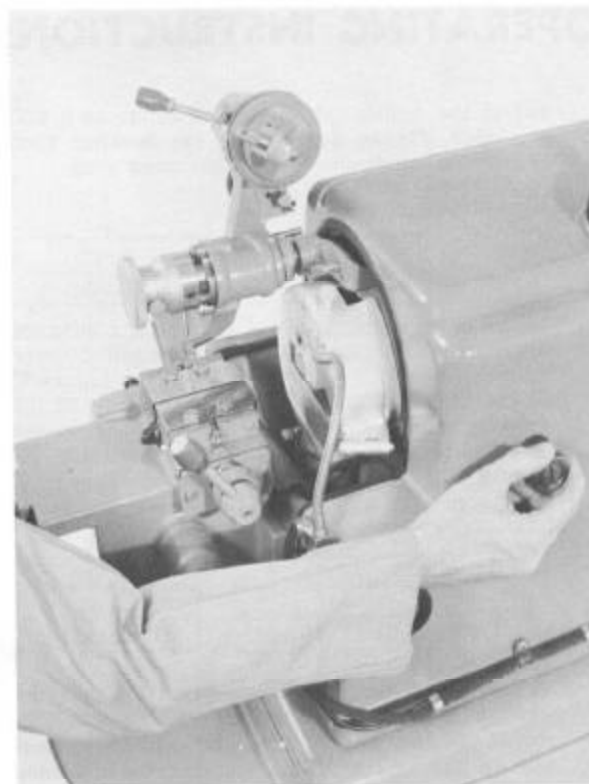

Figure 7b
2. Start the machine. Push in the spindle gyration stop control (Figure 7b) and turn it clockwise. The grinding wheel will be positioned at exactly the right location for truing.